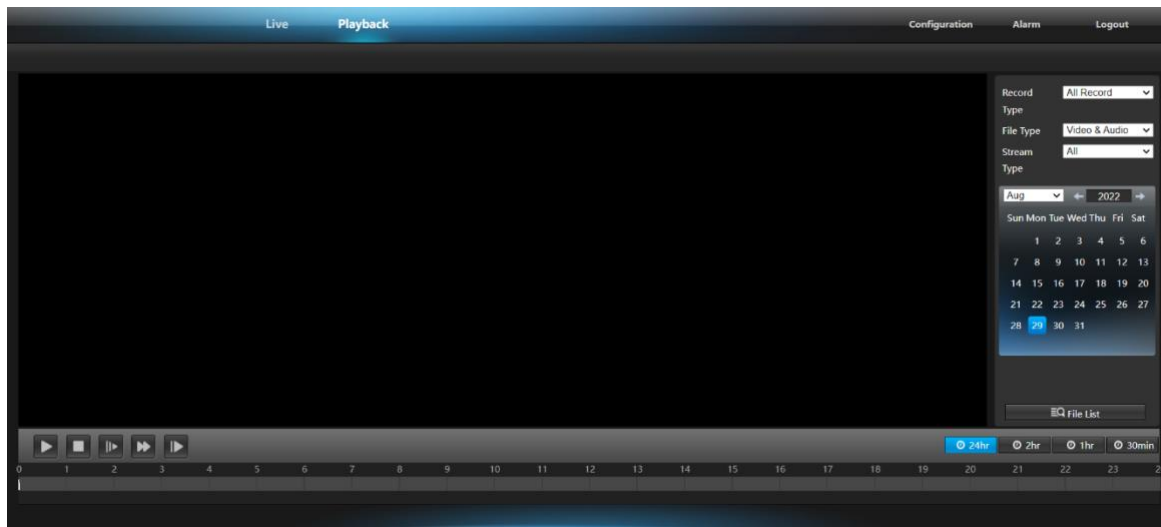

Figure 3.2 Playback
2. **Playback** - The function of playback is to watch, download, and delete the previously stored video. After opening, it will enter Figure 3.2. Here we perform the operations of the functions provided by the playback.